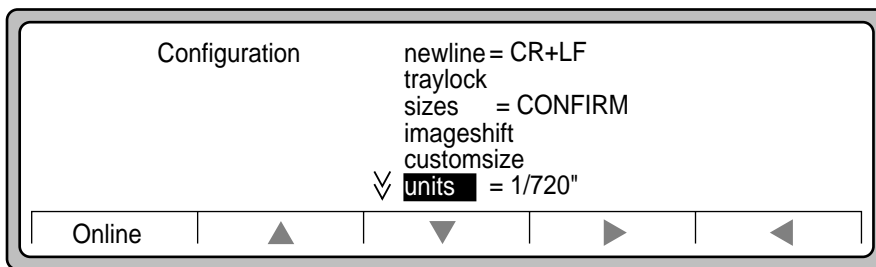

Figure 3-18 Configuration options
- Press ► to get Configuration options (Figure 3-18).
- Press ▼ to select units. (Figure 3-18).